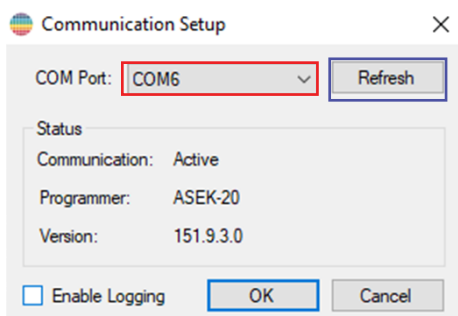

Figure 12: Communication Setup dialog box
To connect the ASEK-20, click “Setup”, then “Communication Setup”. The dialog box in Figure 12 will appear. Click the correct COM# in the pull-down menu next to COM Port. If the COM port is unknown, do the following:
2. Click “Refresh” in the “Communication Setup” dialog window as highlighted in blue in Figure 12.